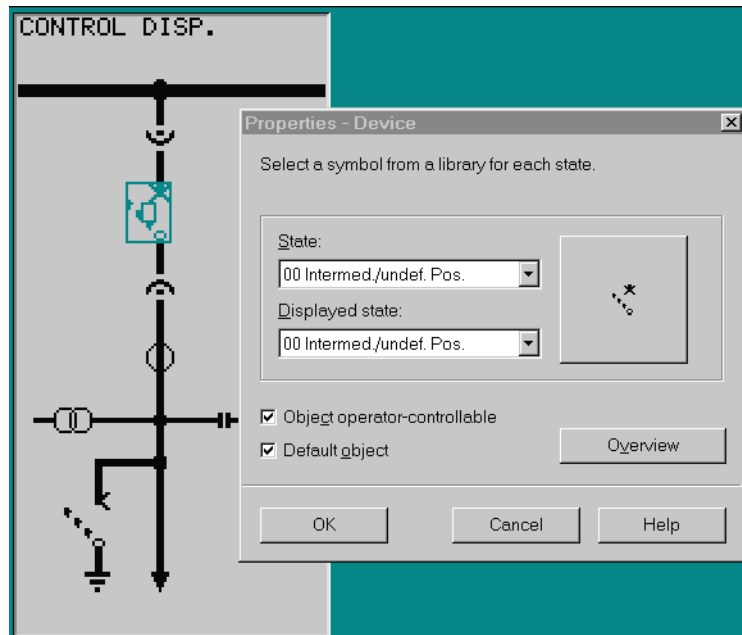

Figure 5-51 Making Equipment Operable and Selecting the First Equipment Switched
- Since the switching devices displayed should represent equipment that can be controlled by the relay, the user must make the connected equipment controllable. In the opened control diagram, the user should click on the equipment (see Figure 5-51). In the **Properties-Device** dialog window which appears, the user should select the option **Object operator-controllable**.